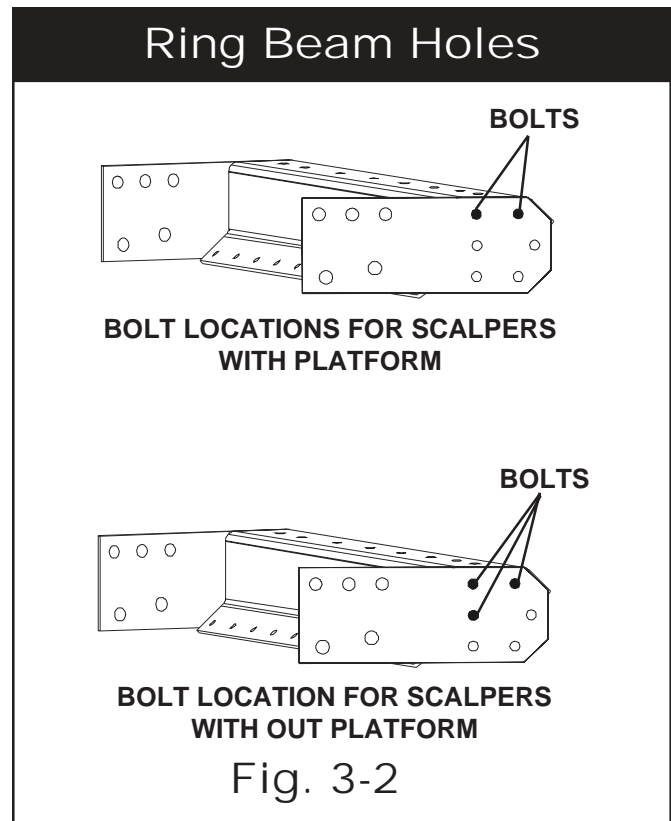
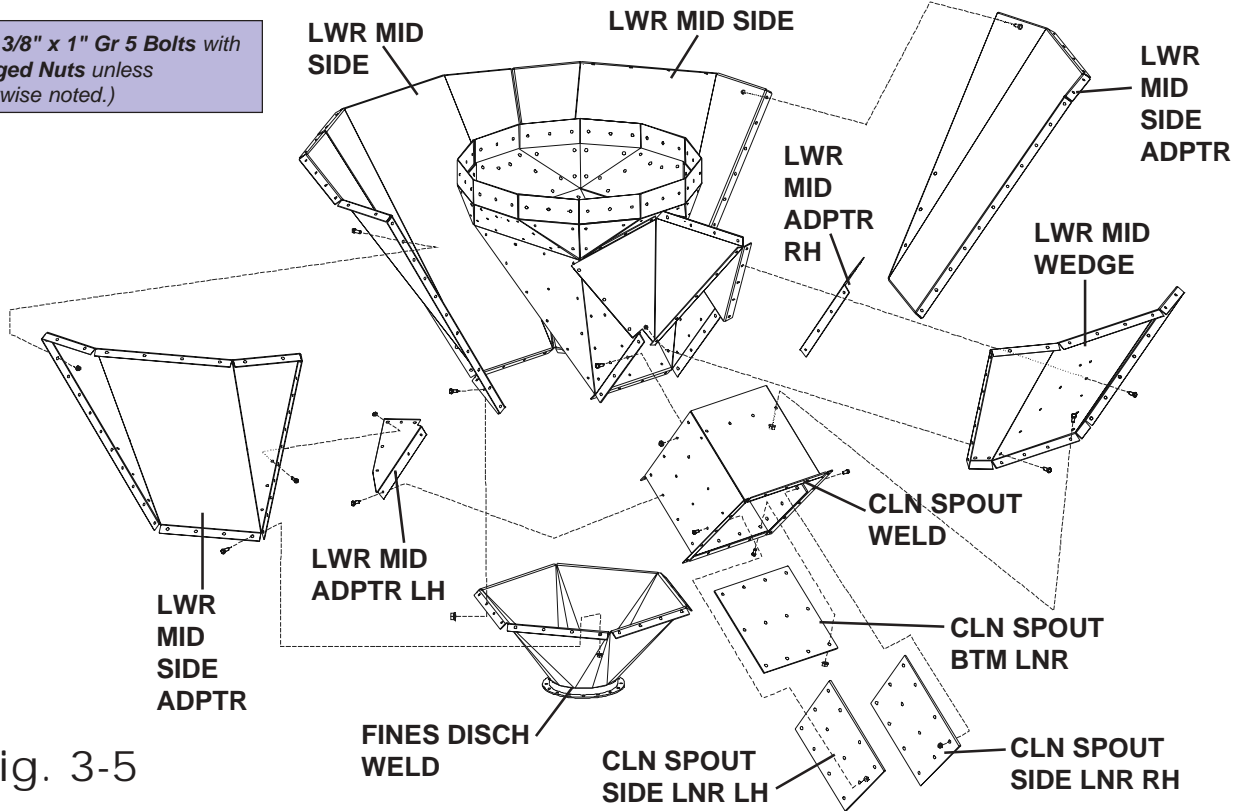

Fig. 3-2
Fig. 3-5
5. Assemble additional **LWR TOP SIDE, LWR TOP UPPER, & RING BM WELDS** sections in this same fashion at their predetermined locations. Identify the **LOWER MID SIDE ADPTR** (they have extra holes see Fig. 3-5) and install them on each side of the Clean Grain Discharge location. The Support Legs and Construction Legs are useful for temporary support of the Ring Beams Panels as assembly progresses. Scalper/Screeners which use the GSI Integral Platform require only the top two holes be used at this time, otherwise connect the Ring Beam panels together using three 1/2" x 1-1/2" Grade 8 bolts and flanged nuts as shown. (See Fig. 3-2) **Do not tighten** the bolts at this time.
7. Using proper lifting equipment, lift the **Clean Grain** discharge into place, and connect the assembly to the **LOWER MID SIDE ADPTR** panels. Use 3/8" X 1" grade 5 bolts and seal between seams with mastic. (See Fig. 3-5) Note that this assembly **does not bolt** to the **FINES DISCHARGE WELDment**. Install the **LWR MID SHED LH** and **RH** and the **LWR MID WEDGE** panel to stabilize the Whole Grain Discharge. (See Fig. 3-4 & 3-5)